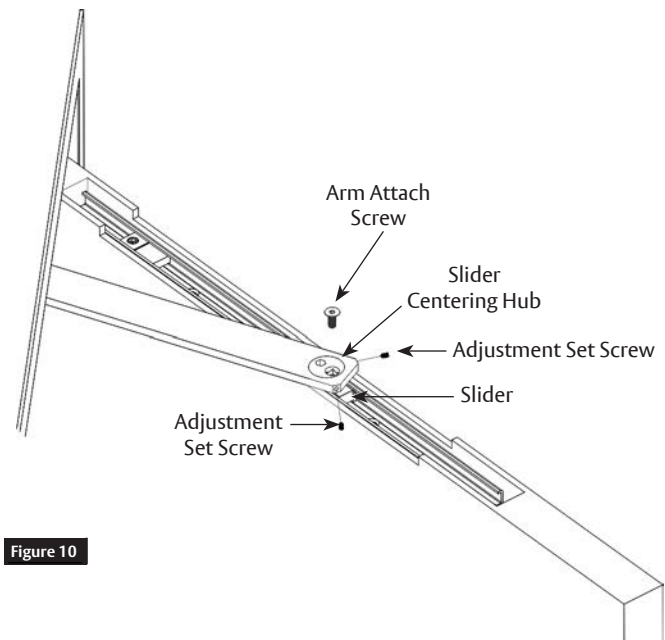

Figure 10
3. Install slider centering hub through arm into slider. (Figure 10)
5. Insert arm attach screw, 1/4-20 x 3/4" FH-Allen w/Nylon Patch, and tighten. (Figure 10)